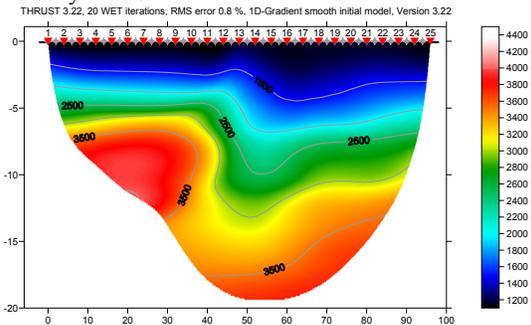
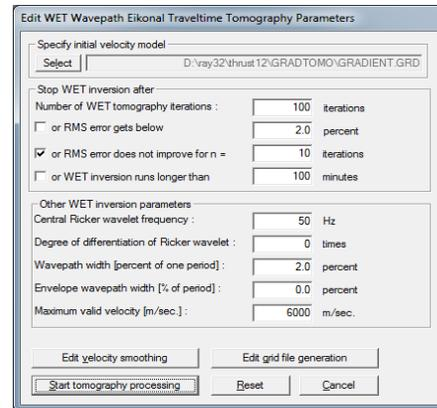
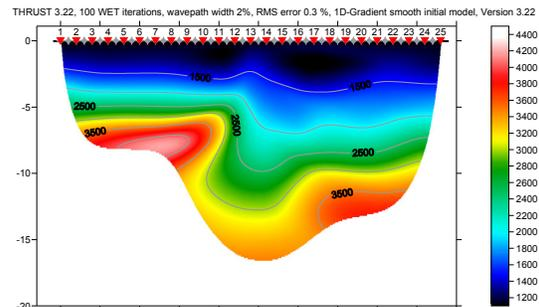
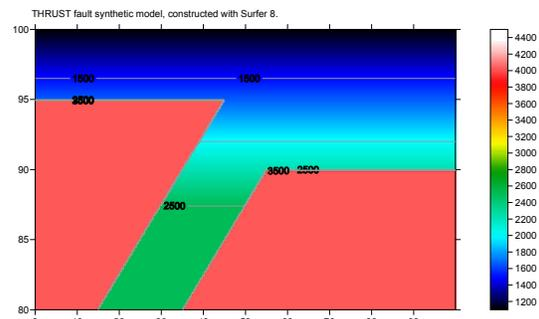

Fig. 6 : Velocity tomogram with Smooth inversion, 20 WET iterations, default settings, wavepath width 3%. RMS error is 0.8%. Initial model is Fig. 5.
Fig. 9 : WET Tomo|Interactive WET tomography...
Fig. 10 : 100 WET iterations, wavepath width 2%. RMS error is 0.3%, initial model Fig. 5.
Fig. 11 : synthetic model, built in Thrust tutorial.
- change *Wavepath width* from default value of 3% to 2%. See Fig. 9.
- edit other settings in *Stop WET inversion after frame* as shown in Fig. 9
- click buttons *Accept parameters* and *Start tomography processing*. Obtain Fig. 10.
Compare agreement between WET inversion output and original model (Fig. 11), for Fig. 6 and Fig. 10. WET after 100 iterations (Fig. 10) more closely images the original model (Fig. 11) than after 20 iterations (Fig. 6). The traveltimes misfit decreased continuously; otherwise the WET inversion would have stopped after fewer than 100 iterations. See (Fig. 9) for WET stop criteria.
Decreasing the WET wavepath width from 3% (Fig. 6) to 2% (Fig. 9 and 10) helps to more clearly image the fault zone. Decreasing the wavepath width sometimes can improve the resolution, but only if shots are spaced closely enough (at every 3rd receiver) and if first break picks are picked accurately. Otherwise decreasing the wavepath width can instead increase the amount of artefacts, and render WET inversion less stable, see bulgatr1. **Increasing the WET wavepath width is a physically meaningful way to control the non-uniqueness of the solution space.** Increasing the wavepath width will render WET output more smoothly, and diminishes the risk of imaging artefacts. Resolution will typically decrease with increased wavepath width, but maximum imaged depth can increase. See tutorial ot0608.pdf.